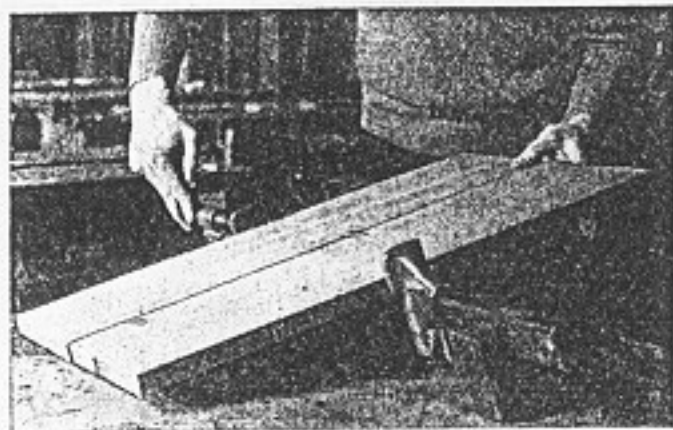

Fig. 100. Testing an edge-to-edge joint before gluing.
4. When the boards have been jointed correctly, a single clamp placed in the center should draw them up tightly. They should fit so tightly together at the ends that the boards cannot be moved by pressing on them with the fingers. This test always should be made before gluing (Fig. 100). At least three clamps are needed for gluing (see Gluing Operation 101).